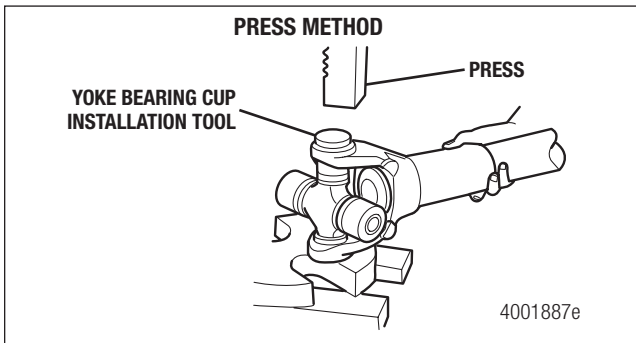

Figure 5.19
- Use an appropriate press to install the first bushing slightly past the snap ring groove. Figure 5.19.
- Use an appropriate press, yoke bearing cup installation tool or universal joint press to install the second bushing slightly past the snap ring groove. Check that the bushing is aligned with the universal joint. Figure 5.19.